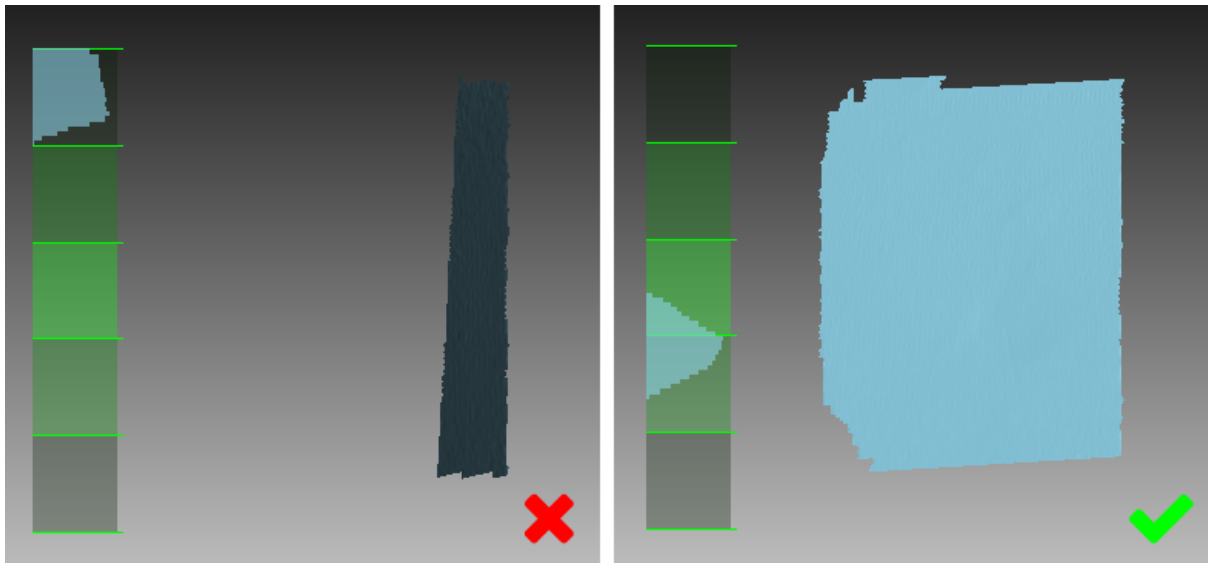

Figure 5.2: Scanner orientation and reconstructed surfaces.
- Maintain the scanner orientation in such a way that the field of view is sufficiently filled with surfaces (see Figure 5.2)